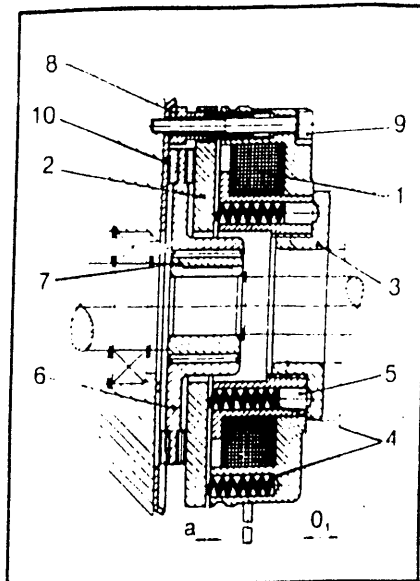

FIGURE 1
The Lenze Electromagnetic Release, Spring Set Brake - Type 14.448, as shown in Figure 1 produces its stopping torque by the use of multiple springs (4) exerting pressure against the armature plate (2). The armature plate, in turn, is forced towards the friction plate (8) (or mounting flange (10)) compressing the dual faced friction rotor (6) between the armature plate and the friction plate (or mounting flange). Figure 1 illustrates the position of the armature plate, friction rotor and friction plate in the set position. The rotor is internally splined to the hub (7) which is keyed to the shaft.
(NOTE: Air gap dimension is illustrated in Figure 1 denoted by "a").
The brake is supplied from the factory with the nominal torque settings. This torque can be reduced by unscrewing the torque adjustment ring (3) with a spanner within the limit of the "0," dimension given in Table 1 and depicted in Figure 1. The torque adjuster ring has dent action with torque variation per step given in Table 1.
In most applications, the brake needs practically no maintenance. However, after a long period of operation, or if the brake has a high duty cycle, adjustment of the air gap ('a', Figure 1) may be necessary. When the 'a max' value shown in Table 3 is exceeded, adjust the value back to 'a' using the air gap adjustment instructions described in Section V, step 9 of the assembly instructions.